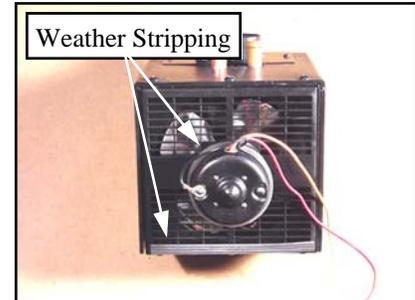

Figure 1
- 1.2 (See figures 1 and 2). Install the supplied weather stripping around the motor and along the rear bottom edge of the heater. If equipped, remove the plugs from the copper tubes on the top of the heater. Lastly, remove and retain the two Phillips head screws from the bottom right side of the heater as shown in Figure 2.